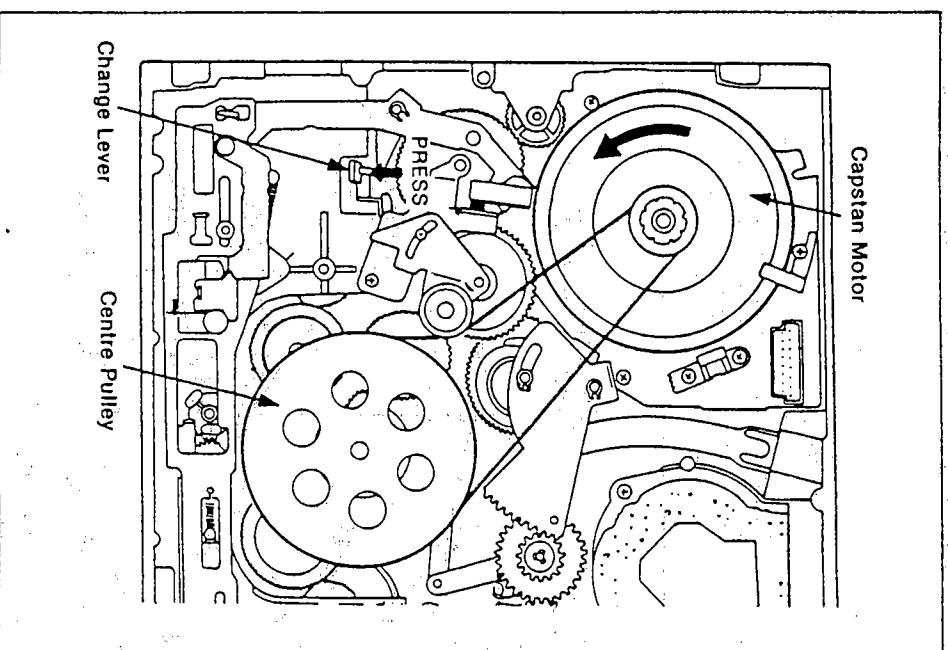

Figure M53
1. Press the change Lever in the direction indicated by arrow mark as shown in Figure M53 (to release the lock).
6. Press the Change Lever and manually move the loading mechanism toward the EJECT position (Figure M53).